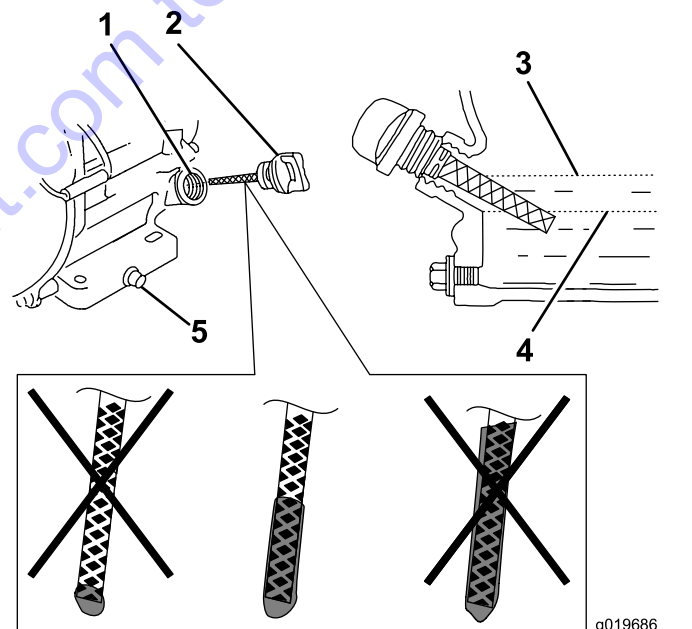

Figure 7
3. Clean around the dipstick so that dirt cannot fall into the filler hole and damage the engine (Figure 7).
Note: The oil should be level with the upper-limit mark (Figure 7).